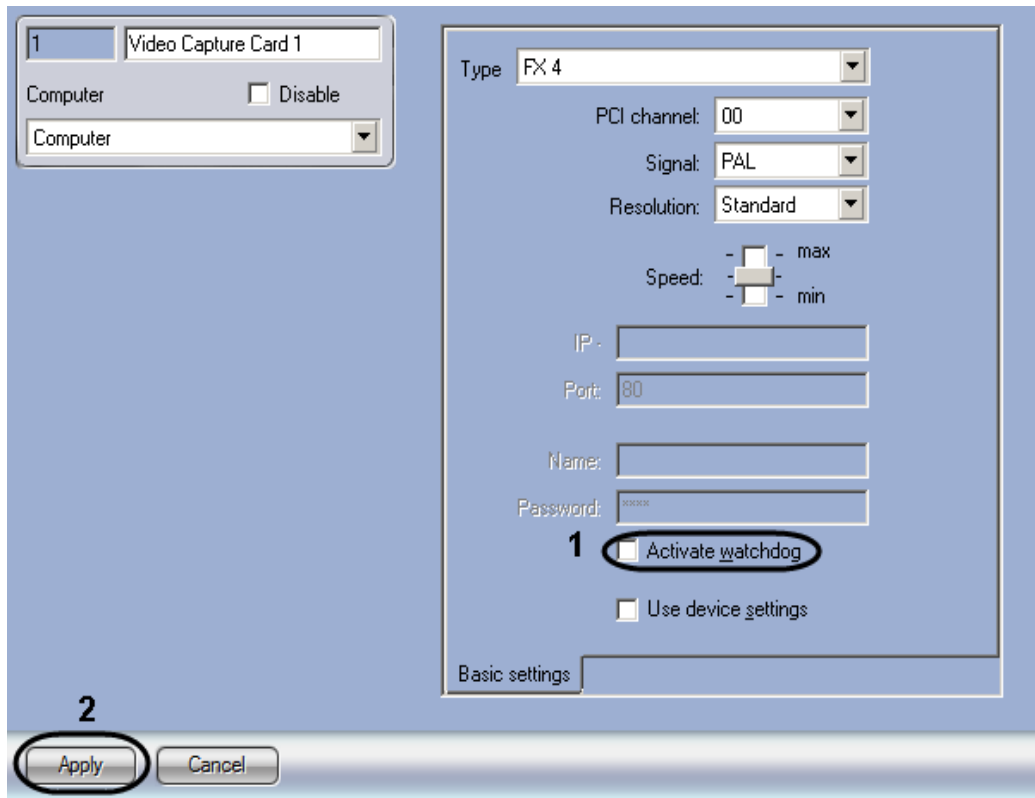

Figure 3.1-21 Activation of the Watchdog hardware performance tester on the Server with installed video capture cards
2. Set the **Activate watchdog** checkbox on the setting panel of the **Video capture card** object corresponding to one ADC on the card to which the Watchdog is connected (Figure 3.1-21, 1).
3. To save changes click **Apply** (Figure 3.1-21, 2).